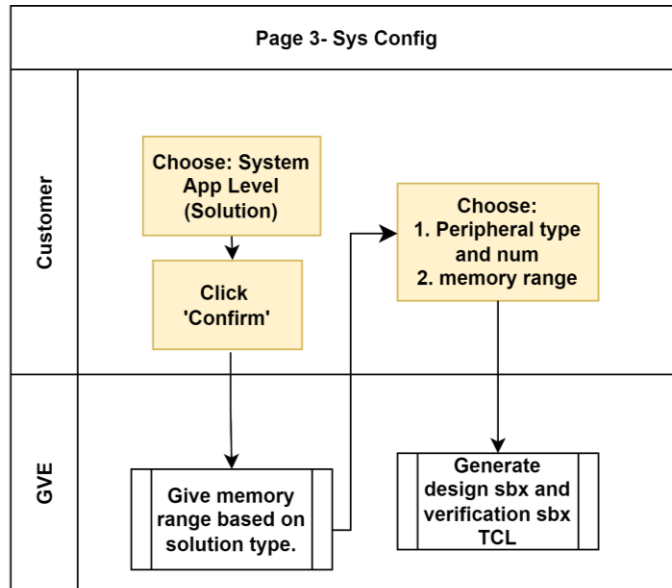

Figure 2.23. Scalable Wizard – System Configuration Page
- From the System Configuration page, there are two steps (Figure 2.23):